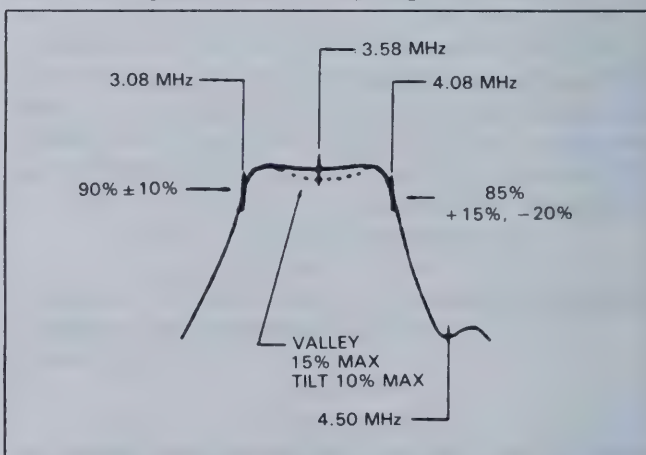

Fig. 24. Frequency Response Measurement.
(Refer to Fig. 24)
1. Connect the audio or rf output of the sweep generator to the input of the circuit under test and the output of the test circuit to channel 1 (vertical axis) of the oscilloscope. A demodulator probe will give a "text book" frequency response display as shown in Fig. 24, but a stand-